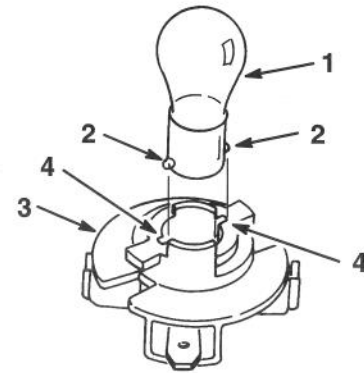

**Figure 31**
3. Rotate the bulb holder 1/4 turn counterclockwise and remove it from the reflector (Fig. 31).
2. The bulb holder has two tabs (Fig. 31). Align the tabs with the slots in the reflector, insert the bulb holder into the reflector and rotate it 1/4 turn clockwise until it stops.